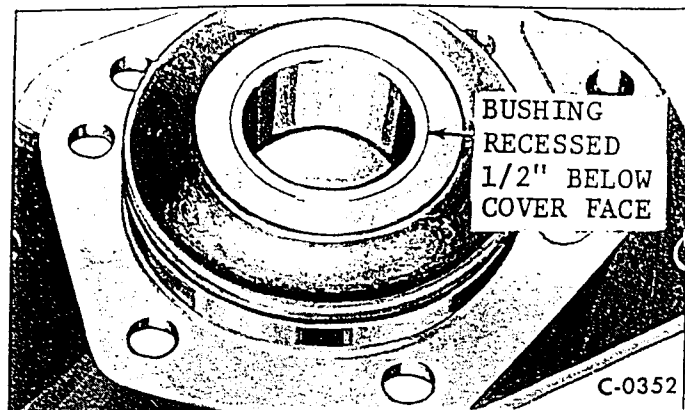

Figure 28 – Bushing Installed in Cover
1. If bushing was removed from cover, use a press and a straight line pushing action to press bushing into cover until face of bushing is recessed 1/2-inch below cover face (fig. 28).